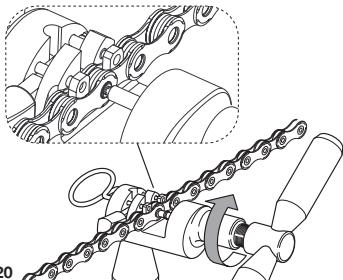

Fig.20
- Screw in the tool to bring the pusher into contact with the protruding end of the **ULTRA-LINK 5-CN-SR700** bush, turning it by about $\frac{3}{4}$ of a turn and exerting moderate force till distorted (**Fig. 20**).